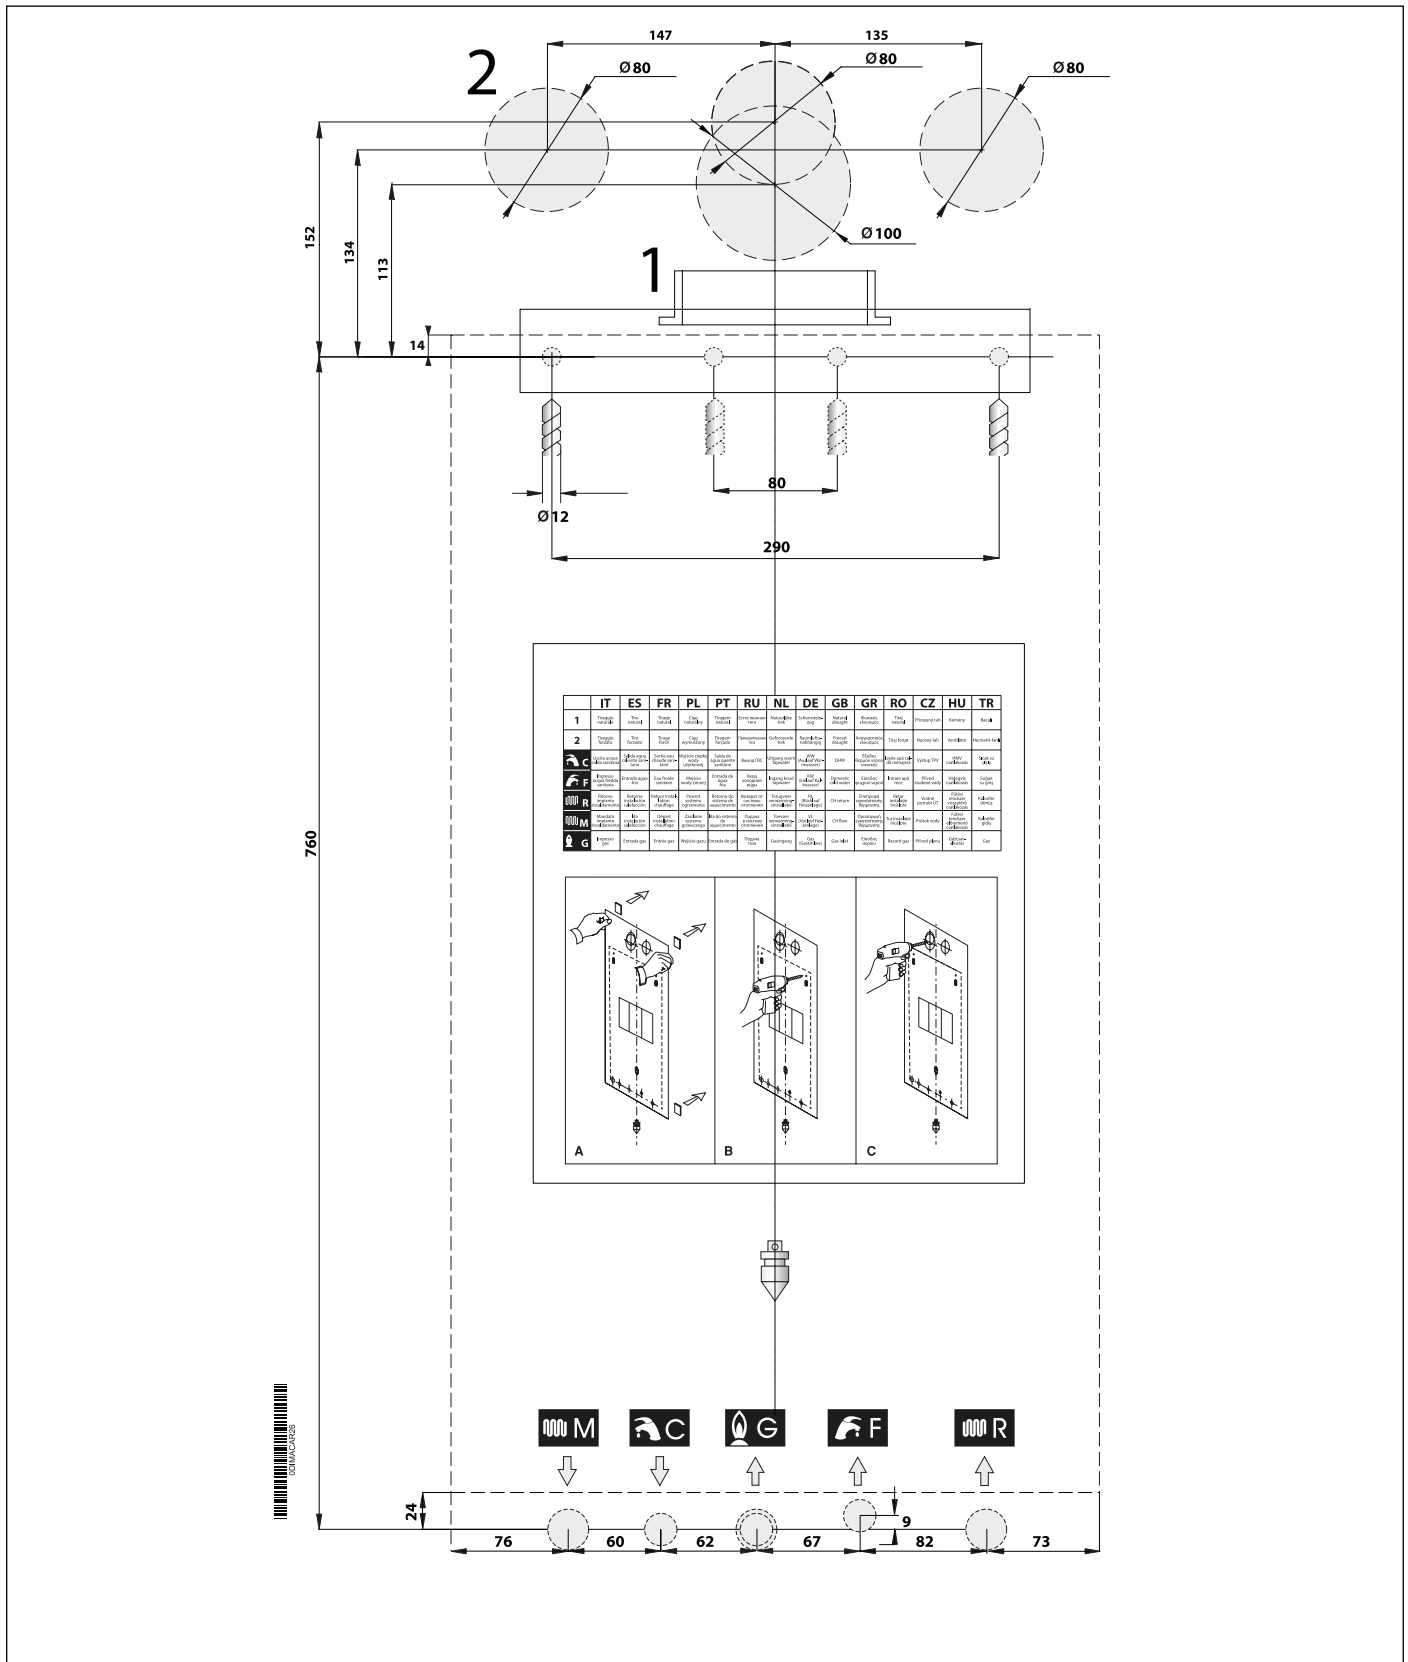

Fig. 15 Paper template
- » the template for mounting the boiler on a wall (see Fig. 15 Paper template).
Each boiler is supplied with a paper template, found inside the packaging (see Fig. 15 Paper template).